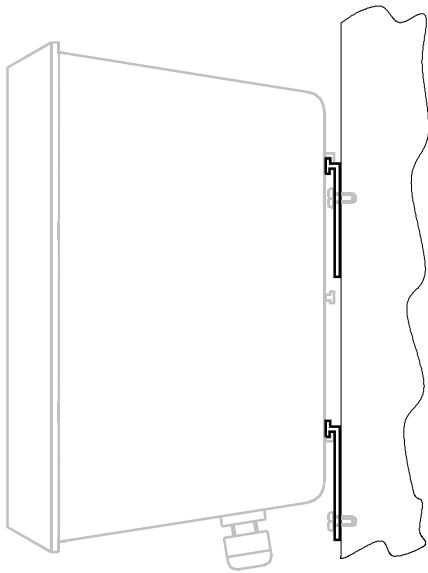

Fig. 1
- From this relay use the *opening function (NC)*. The relay contact must be closed at stop and be open at start/operation (see Fig. 1):